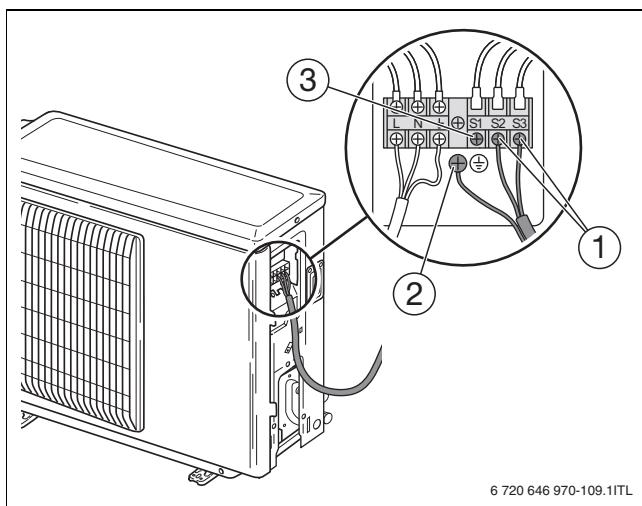

Fig. 38 External unit terminal
► Connect the earth cable to the external unit (→ Fig. 38, [1]). Use an earth cable which is longer than the other cables so that it will not become disconnected when strain is applied.
► Connect the CANBUS cables from the air to water heat pump control unit to terminals S2 to S3 (→ Fig. 38, [1]).